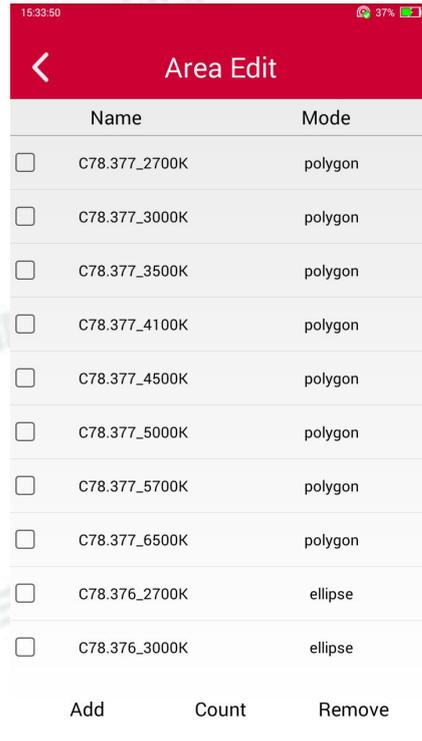
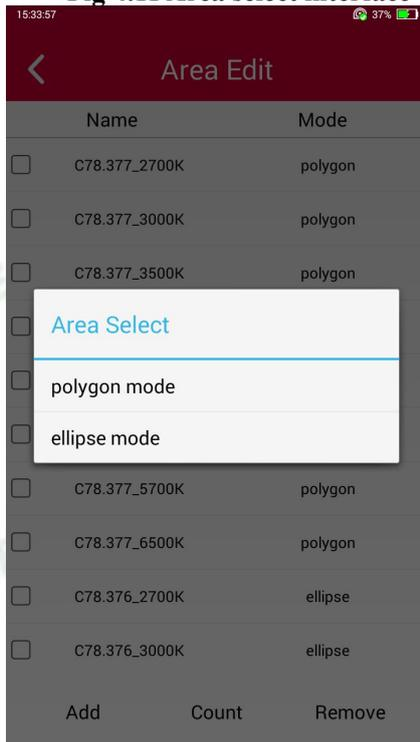

Fig 4.12 Area edit button
Fig 4.13 Area type select interface
- **Area Edit:** User can delete or add areas (shown in Fig 4.12) in the Area Edit interface. Click "Add" to enter the Area Select interface (shown in Fig 4.13), there are two types of areas: Polygon and ellipse areas. Polygon area is composed of multiple vertexes, which can be edited by enter each vertex x, y coordinates in turn, and then save (shown in Fig 4.14) in edit mode; ellipse is determined by ellipse parameters (a11, a12, a22), the center coordinates (x0, y0) and the SDCM value, and the edited parameters can be saved (shown in Fig 4.15). Press “Count” to set the grids for X and Y axes, generally, set 8 for X axis and 9 for Y axis (shown in Fig 4.16).